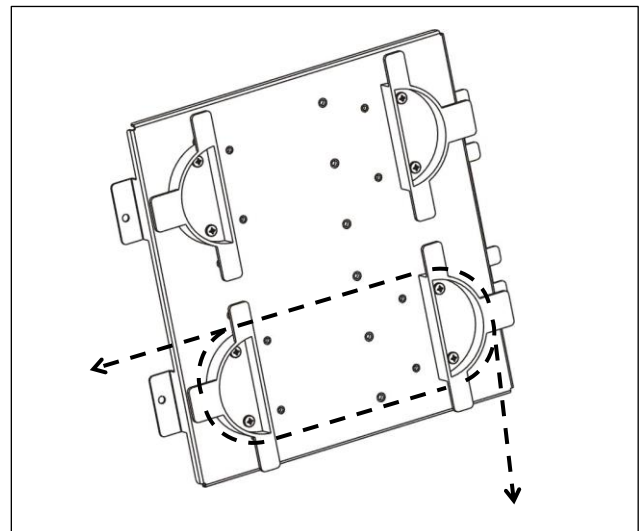

Figure 11. Cable take-up reel routing
- ③ Carefully wrap cables around the take-up reels to reduce slack as needed. Example routing is shown in Figure 11. Alternate mounting holes are included on the side plate for repositioning the half-reels, if desired.